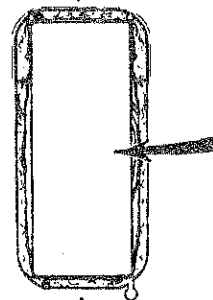

FIGURE 21.
17. Replace the insulation so that it covers the thermostat and element, see Figure 21.